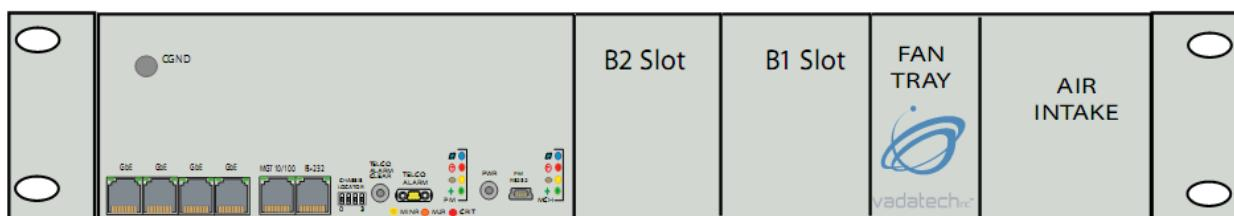
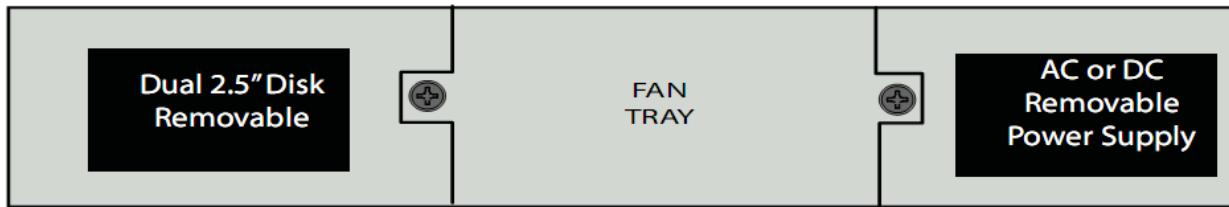

Figure 50: VT856 Front Side AMC Slot Layout
Figure 51: VT856 Back Side Layout
The VT856 carrier includes a MicroTCA Carrier Hub (MCH), a MicroTCA Power Module (PM) and a MircoTCA Cooling Unit (CU). A front panel provides access to these components. The slot layout is shown in Figure 50 and Figure 51.